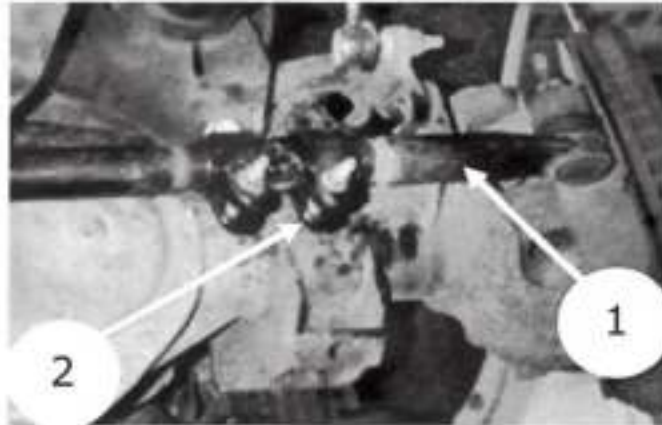

Figure 7 - Tie Rod End Adjust
8. Loosen the Left Tie Rod Adjuster Clamp Nut (Fig. 7) and realign the left ball stud housing by rotating the left outer tie rod until the ball stud housings are aligned. When complete, tie rod alignment measurement must be $\pm 3^\circ$ or less.